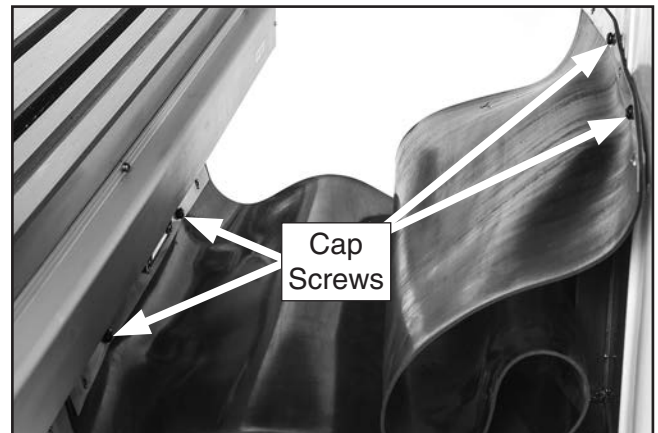

Figure 20. Rear way cover installed.
4. Move table all the way forward, using Y-axis handwheel, then attach rear way cover with four pre-installed cap screws, as shown in **Figure 20**.